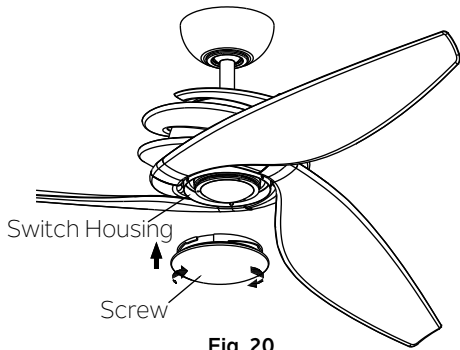

Fig. 20
Step 1. Secure the glass shade to switch housing by twisting in a clockwise direction. Do not over-tighten. (Fig. 20)